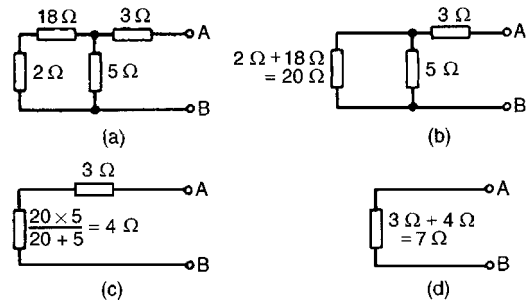

Figure 13.32
- (iv) The resistance 'looking-in' at terminals AB in Fig. 13.32(a) is obtained by reducing the circuit in stages as shown in Figures 13.32(b) to (d). Hence the equivalent resistance across AB is $7\ \Omega$.